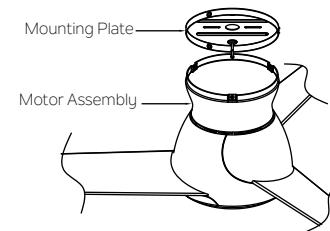

Fig. 10
Step 6. Hook the motor body onto the ceiling plate as shown. You can now proceed with the electrical wiring of your fan. (Fig. 10)